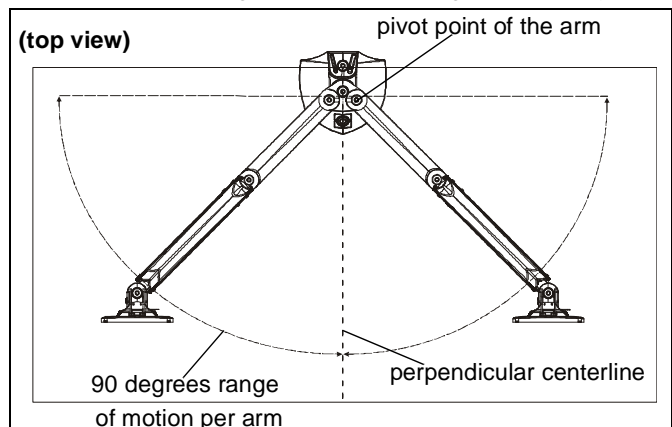

Figure 25
1. Adjust arm angles as desired within a 90 degree range from the pivot point of the arm and a perpendicular centerline of mount. (See Figure 25)